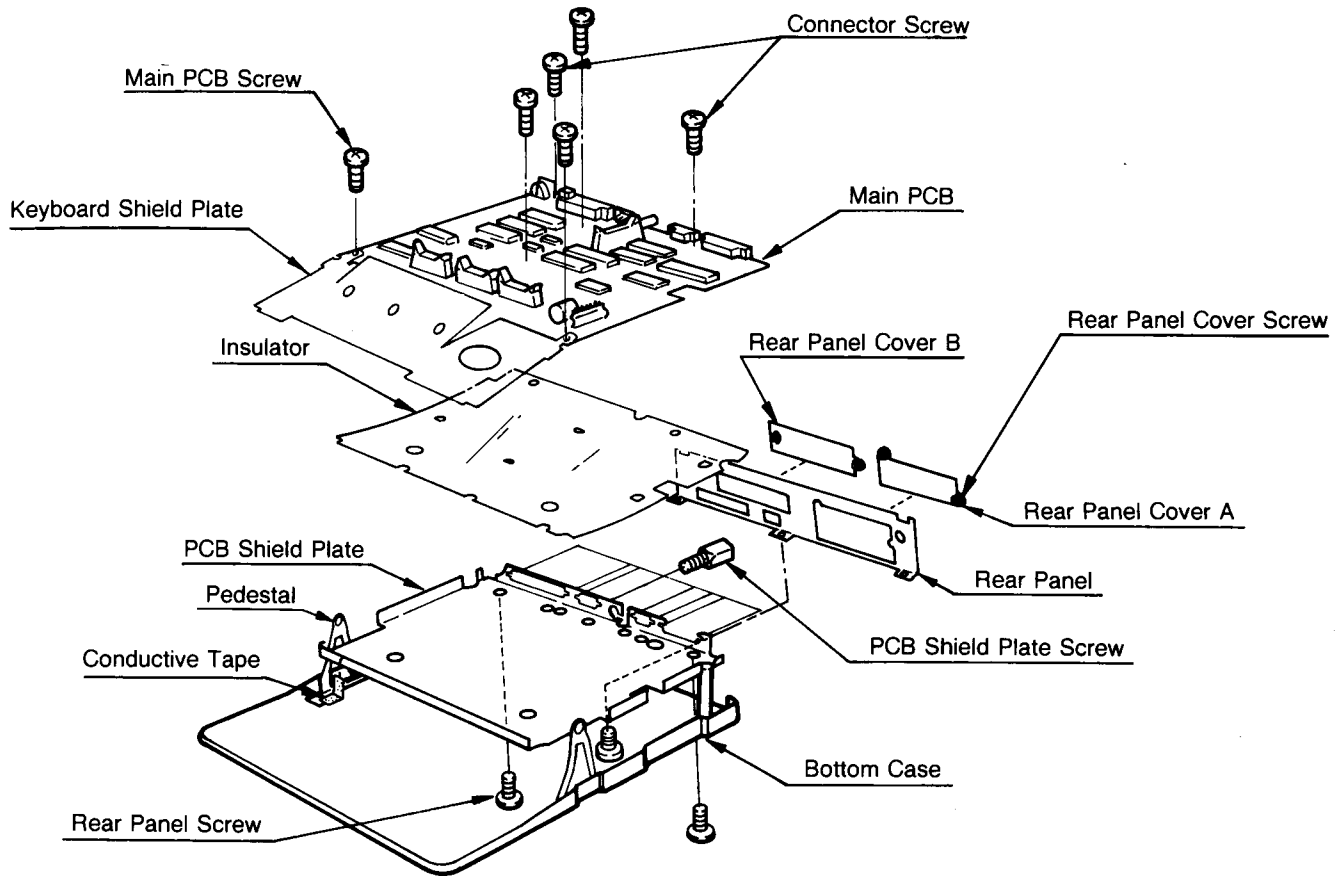

Figure 2-22. Exploded View of Main PCB Assembly
- (1) Remove two connector screws fixing the D-Shell Connectors. (Figure 2-22)
- (2) Remove four Main PCB screws.
- (3) Remove the Keyboard Shield Plate.
- (4) Remove two Conductive Tapes connecting the PCB Shield Plate and the Pedestals (right and left), then take the Main PCB together with the Main PCB Shield Plate and the Rear panel out of the Bottom Case.
- (5) Remove three Rear Panel screws and remove the Rear Panel.
- (6) Remove eight screws fixing the Main PCB Shield Plate to the D-Shell connectors with a 5 mm nutdriver and remove the Main PCB Shield Plate from the Main PCB.
- (7) Loosen four screws fixing the Rear Panel Covers (two for each) and remove the Rear Panel Covers.